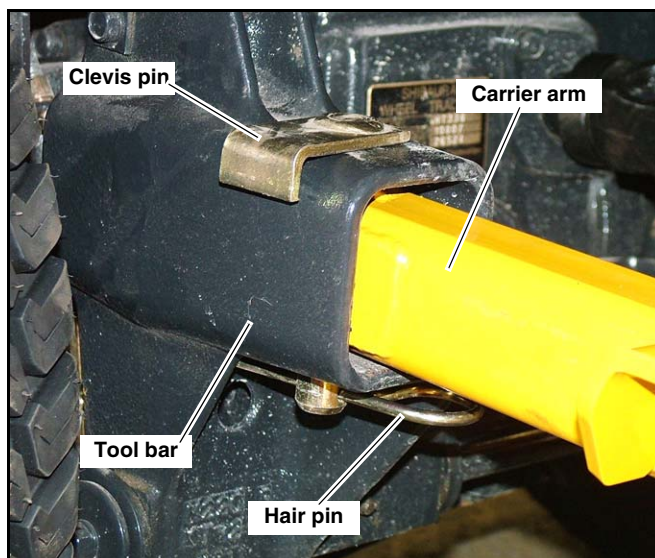

Fig. 3-4
4. Drive the tractor ahead slowly and insert mower deck carrier arms into the tractor tool bar. Stop tractor engine, engage park brake and remove key from the ignition switch. Fig. 3-4
6. Insert tractor clevis pins through holes in tool bar and carrier arms and lock clevis pins in place using hair pins provided. Fig. 3-4